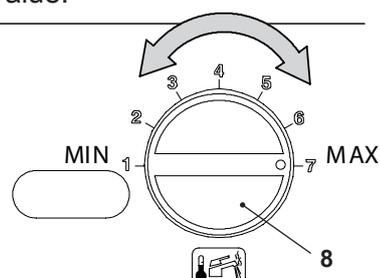

Figure 15.17
- Turn the hot water temperature knob 8 to the maximum Figure 15.17 and check the CO_2 value.